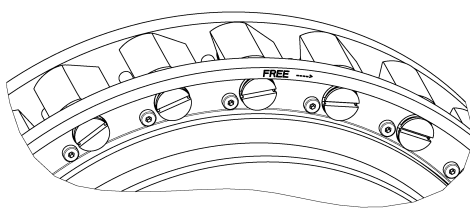

Figure 5: Clamp bodies "neutral position"
- Lift the inner race (2) including the cage (8) out of the outer race (1). Use appropriate lifting gear at the threaded hole of the inner race for this.
- Place the inner race (2) including the cage (8) facing downwards the label "FREE" on an assembly table.
- Secure (see Fig. 5 and 6) the clamp bodies in lift-off position (against the spring force) using an O-ring / cable connector as an assembly aid.
- Insert the inner race (2) with cage (8) into the outer race (1) until half of the clamp body is covered.